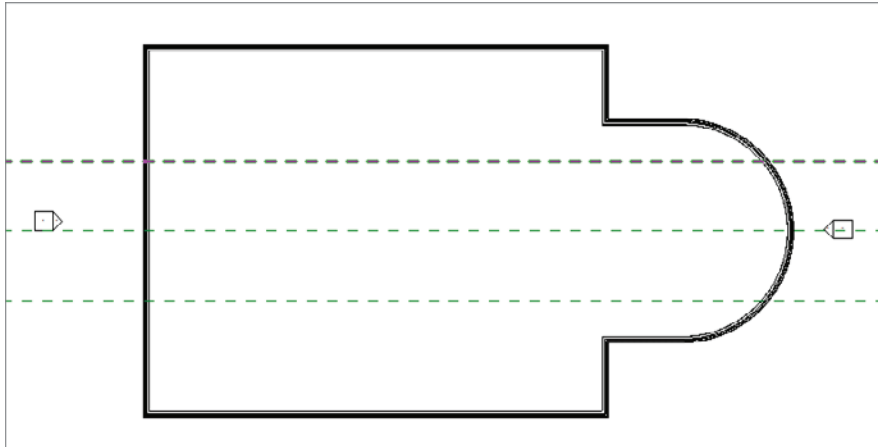

FIGURE 2.5 Reference planes are used here to aid in the placement of walls.
12. With the Ref Plane command still running, hover over the middle line again. This time, offset the alignment line down. Your plan should now look like Figure 2.5.